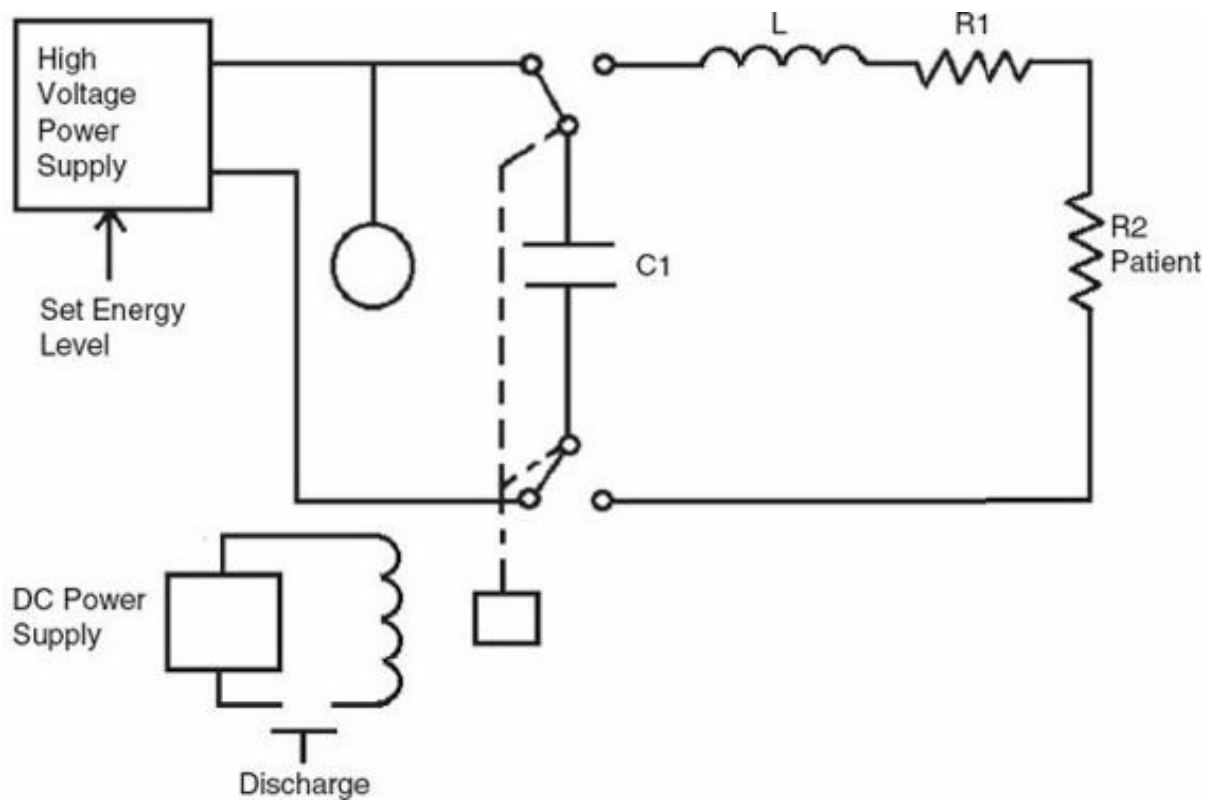

FIGURE 10.3 Lown defibrillator.
As shown in Fig. 10.3, the Lown defibrillator consists typically of a 16-microfarad (μF) capacitor (C_1), 100-mH inductor (L_1), resistance of the inductor (R_1), and the patient's resistance (R_2). After the capacitor is charged fully to about 400 J, energy will be stored and 7 kV will develop across the capacitor. During discharge the inductor's (L_1) magnetic field will produce a negative waveform during the last 5 ms. The following are the events that occur sequentially:
6. During the last 5 ms the magnetic field across L_1 collapses, producing a negative current and a voltage shown in Fig. 10.3.